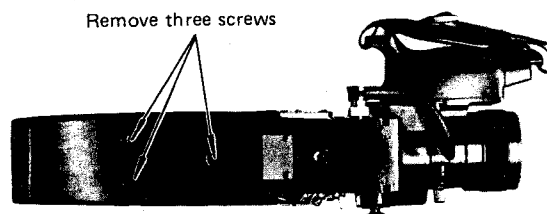

Fig. 3-2-1
- o Remove three screws which hold the shoulder pad and remove the shoulder pad. (Fig. 3-2-1)